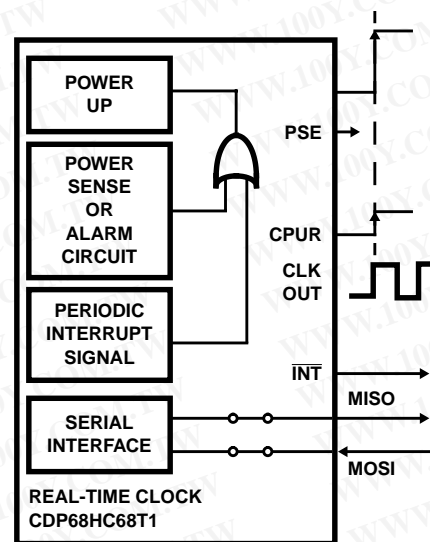
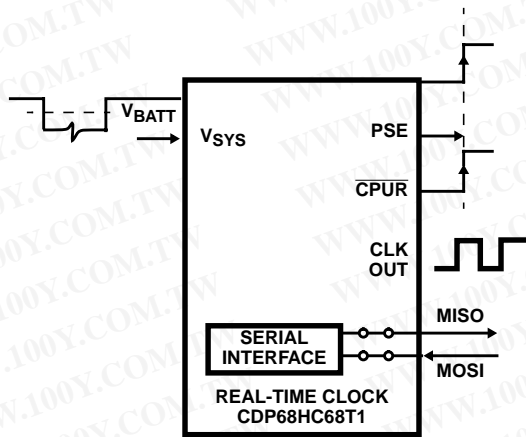

FIGURE 5. POWER-UP FUNCTIONAL DIAGRAM (INITIATED BY INTERRUPT SIGNAL)
FIGURE 6. POWER-UP FUNCTIONAL DIAGRAM (INITIATED BY A RISE IN VOLTAGE ON THE "Vsys" PIN)
### Watchdog Function (See Figure 6)
**Power Up (See Figure 5 and Figure 6)**
Two conditions will terminate the Power-Down mode. The first condition (See Figure 5) requires an interrupt. The interrupt can be generated by the alarm circuit, the programmable periodic interrupt signal, or the power sense circuit.
The second condition that releases Power Down occurs when the level on the  $V_{SYS}$  pin rises about 0.7V above the level at the  $V_{BATT}$  input, after previously falling to the level of  $V_{BATT}$  (See Figure 6) in the Battery Backup Mode or  $V_{SYS}$  falls to logic low and returns high in the Single Supply Mode.